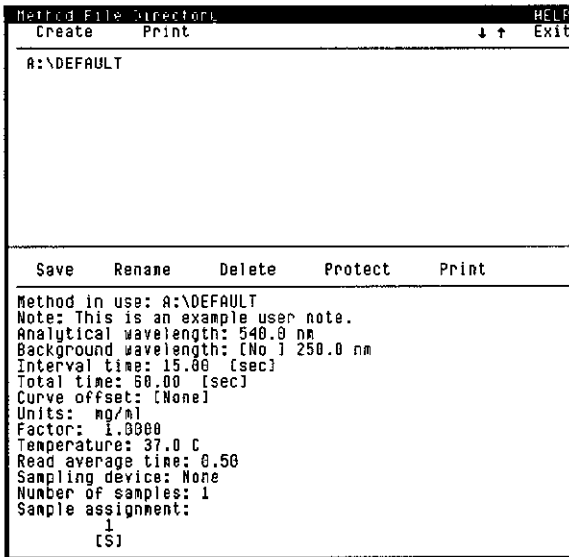

Figure 7-2. Method Window
1. Click on <Method> to display the Method window, Figure 7-2. The Method window is used to setup analysis parameters, recall stored methods and create new methods. General information on method windows is provided in section 3.8.